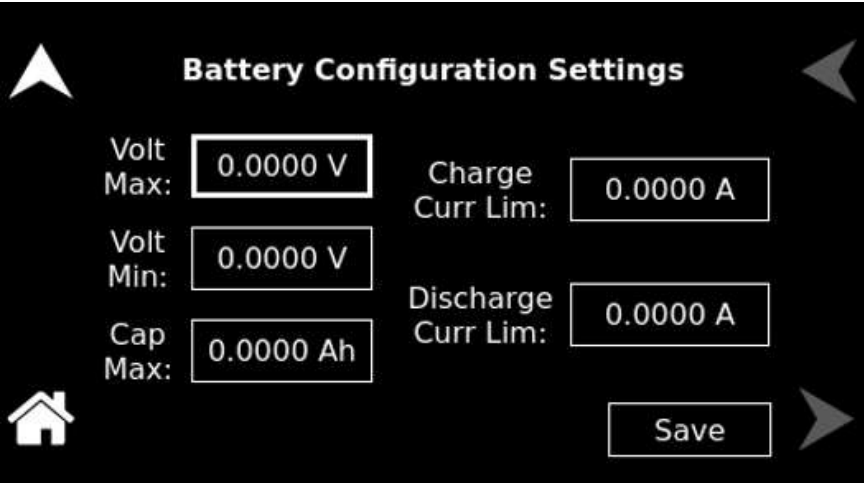

Figure 13-21. Cut- Off Conditions Settings
- The selected configuration name will be displayed at the top of the screen when the 'Edit' option is clicked. Refer to Figure 13-21.
- The parameters available in screen are 'Volt Max', 'Volt Min', 'Cap Max', 'Charge Curr Lim', 'Discharge Curr Lim'. Refer to Figure 13-21.